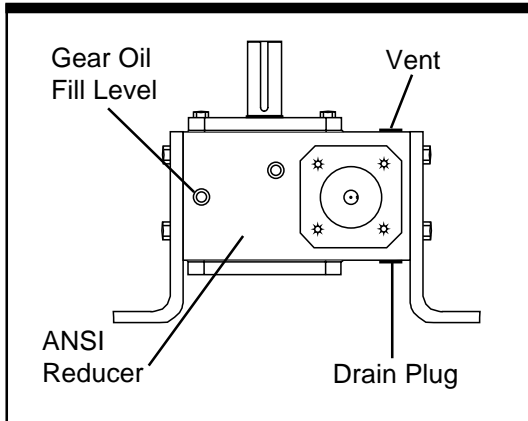

Figure 4-2. Gear Oil Fill Level
▶ Check the level of gear oil before draining (see Figure 4-2). If the level is low, check the reducer's input and output shaft seals for leaks.